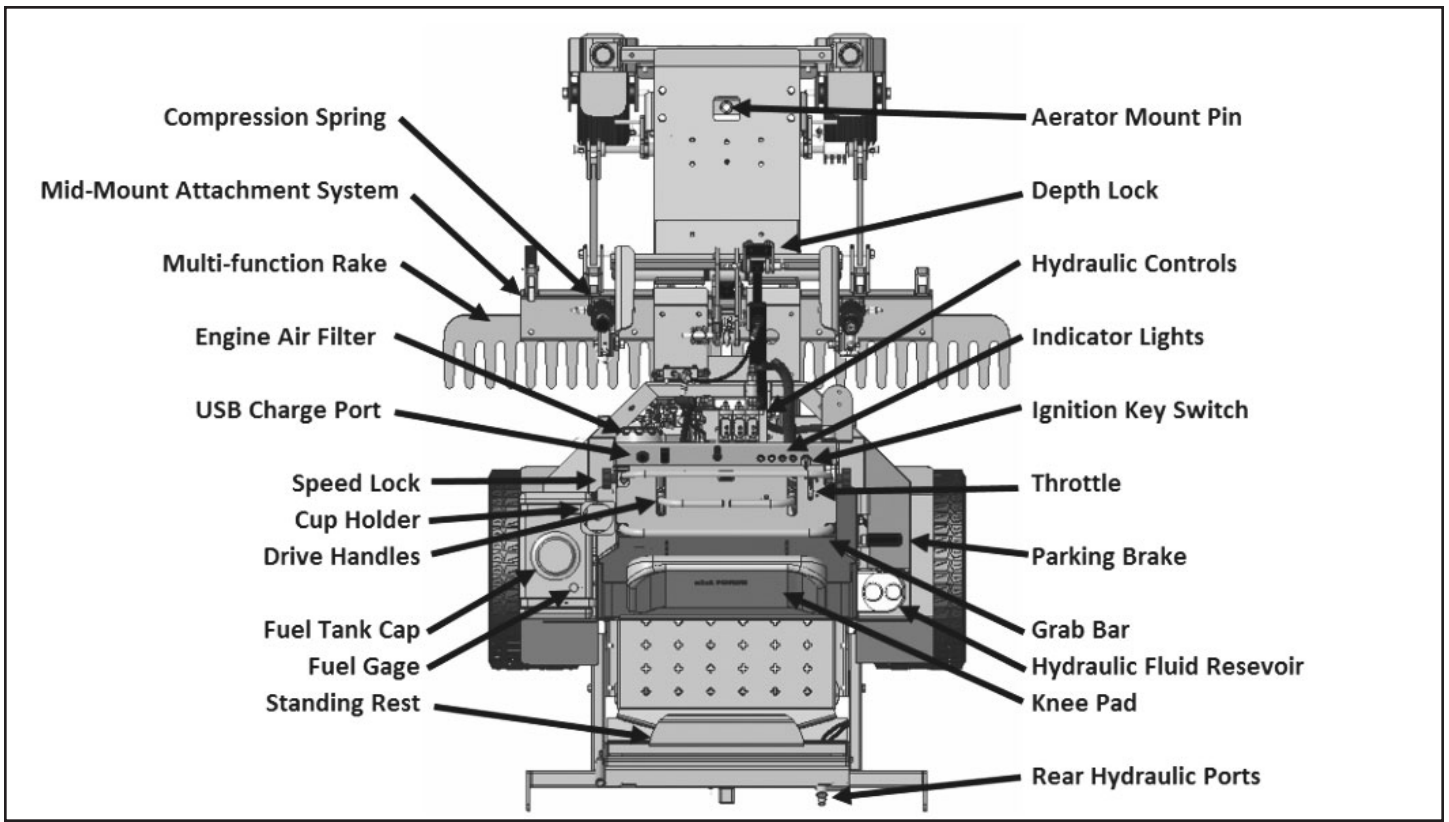

Figure 6: Control layout
3. Flip Rake sections over to extend outward and install hardware with $\frac{3}{4}$ " wrenches. Hardware is provided in the manual canister on the backrest. See **Figure 6** for finished installation.